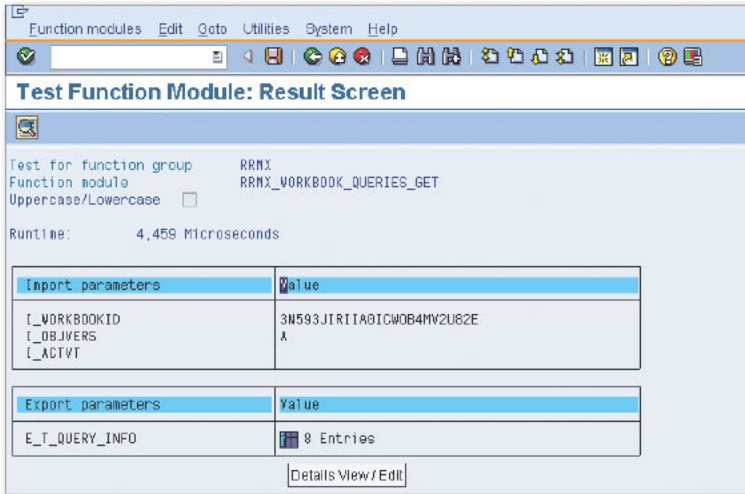

Figure 1 Output of the Function Module RRM1_WORKBOOK_QUERIES_GET
3. Call up Transaction RRMX_WORKBOOK_QUERIES_GET. In the selection screen, specify the workbook ID (I_WORKBOOKID) as determined in Step 1. Also specify the version (I_OBJVERS) as active (A).
- Execute the query. On the subsequent screen (shown in Figure 1), click on the values of parameter E_T_QUERY_INFO to see the queries that belong to the workbook.